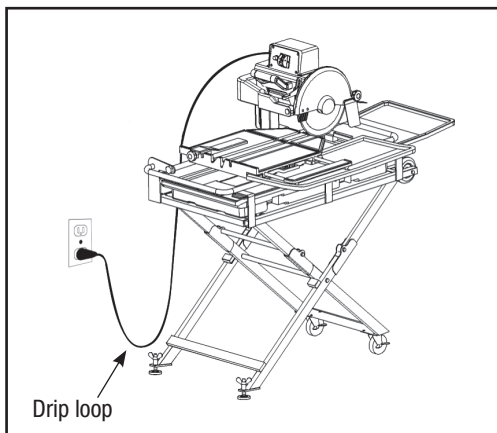

FIGURE 1
A. To avoid the possibility of the appliance plug or receptacle getting wet, position the tile saw to one side of a wall-mounted receptacle to prevent water from dripping onto the receptacle or plug. The user should arrange a “drip loop” is that part of the cord below the level of the receptacle, or connector if an extension cord is used, to prevent water traveling along the cord and coming in contact with the receptacle (FIGURE 1).